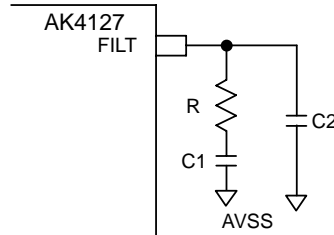

Figure 18. PLL Loop Filter
1. When IMCLK is 256fs, 384fs, 512fs or 768fs, any external parts shown in Figure 18 are not required.